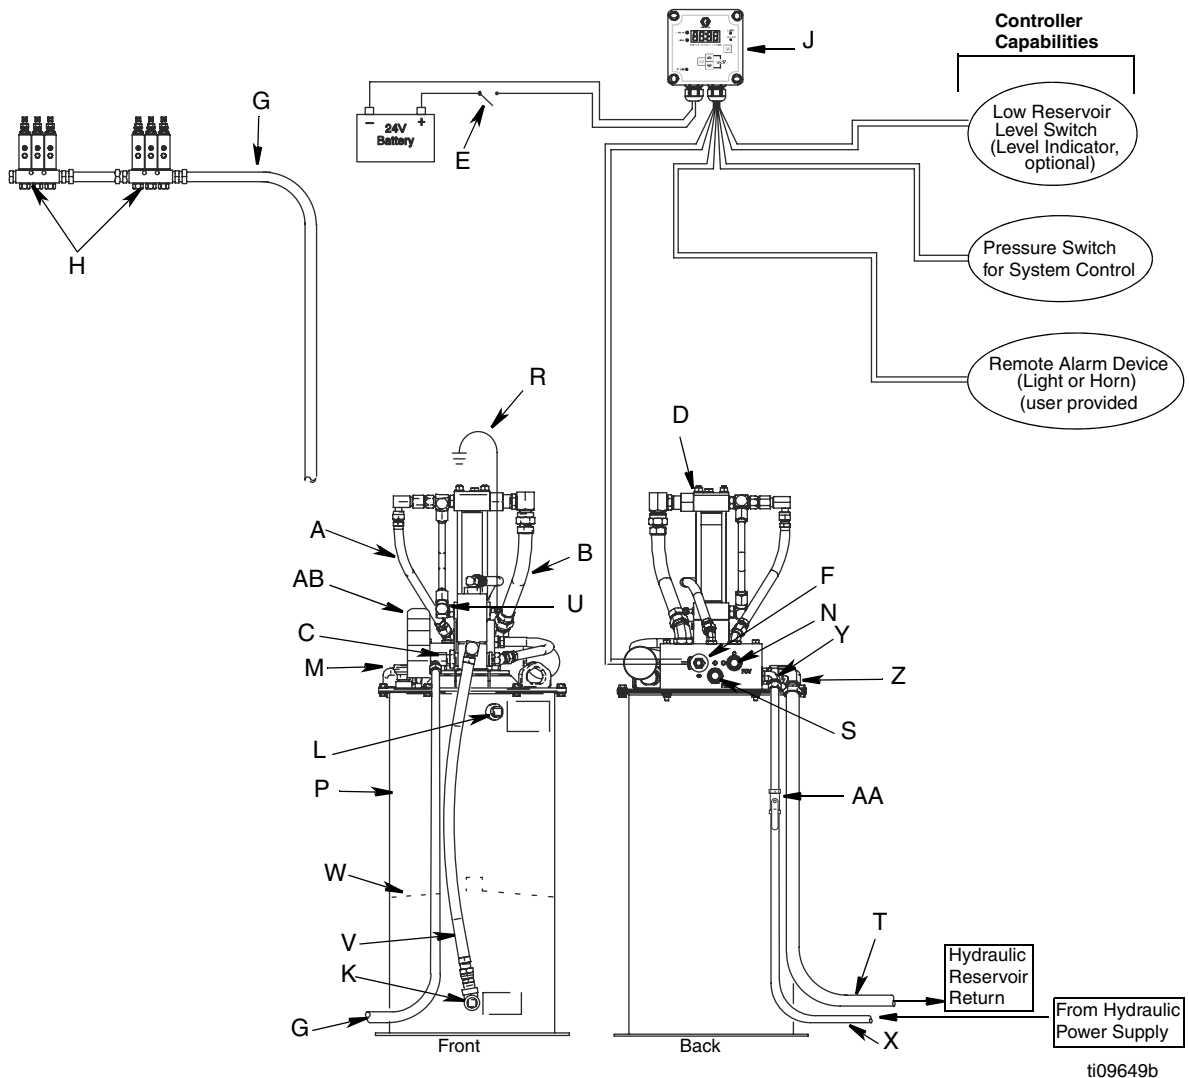
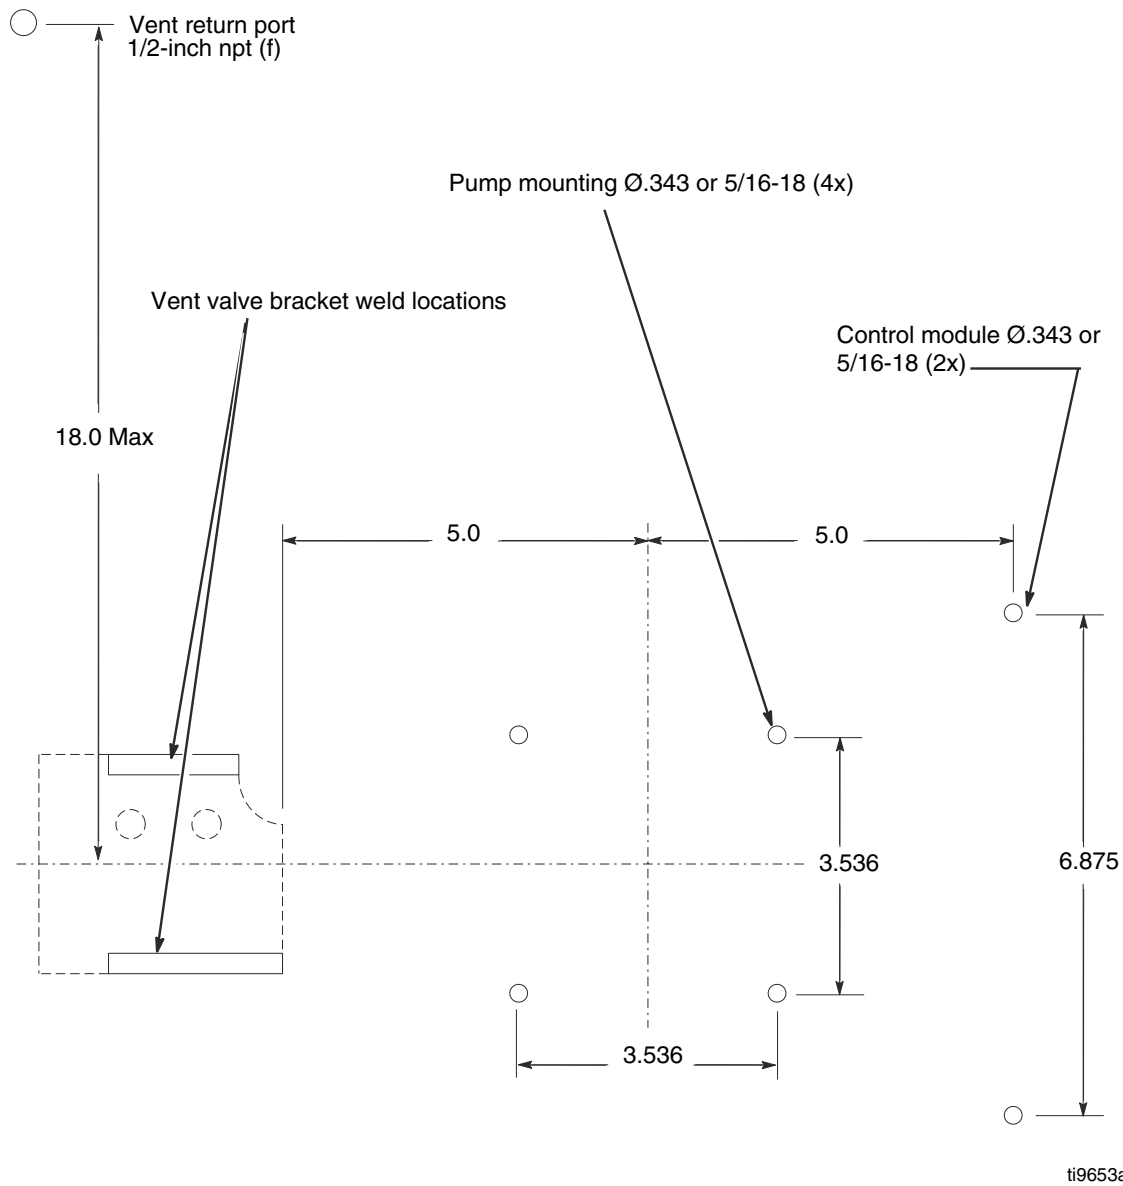

FIG. 4
FIG. 7
(See FIG. 4, page 8)
1. Weld the bracket (FIG. 7, page 10) in place per recommended configuration for mounting the vent valve. Paint the bracket if desired.
2. Connect the Hydraulic Control Line (A) to control module Vent Valve Hydraulic Control (J).
3. Connect Pump Output Connection line (C) to Pump outlet.
4. Connect the High Pressure Lubricant Supply Line (G, FIG. 4, page 8) feeding the injector system to the Lubricant Output (E).
5. Connect the Vent Line (F) to Custom Tank (user provided).
The installation shown in Figures 4, 5, 6 and 7 are only a guide for selecting and installing system components. Contact your Graco distributor for assistance in planning a system to suit your needs.
(See FIG. 4, page 8.)
(For these instructions see FIG. 4, page 8.)
(For these instructions, see FIG. 4, page 8.)